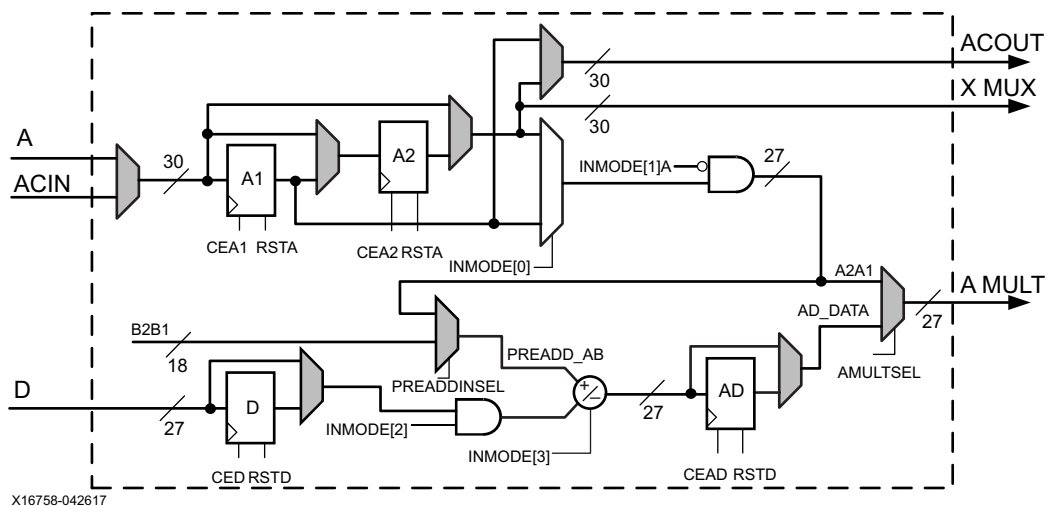
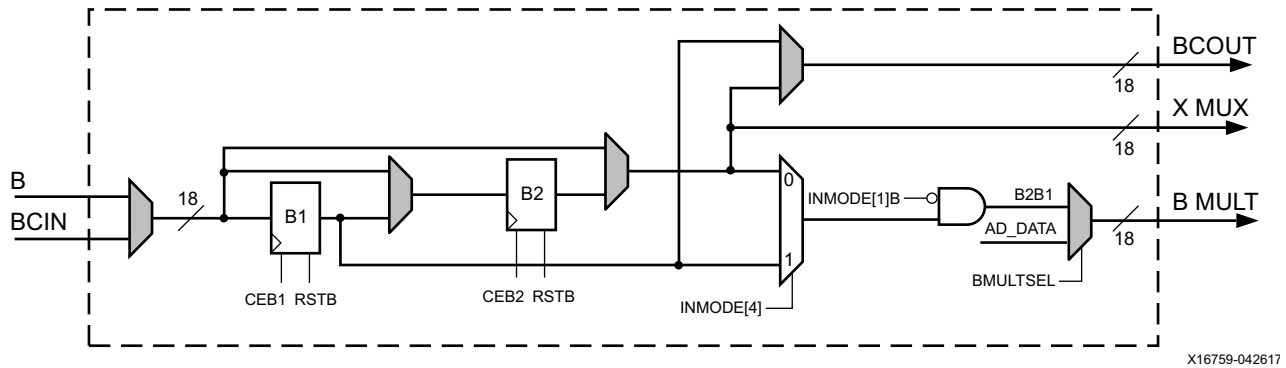

Figure 2-5: Dual A, D, and Pre-Adder Logic
Figure 2-6: Dual B Register Logic
The A and B input port and the ACIN and BCIN cascade port can have 0, 1, or 2 pipeline stages in its datapath. The dual A, D, and pre-adder port logic is shown in Figure 2-5. The dual B register port logic is shown in Figure 2-6. The different pipestages are set using attributes. Attributes AREG and BREG are used to select the number of pipeline stages for A and B direct inputs to the X multiplexer to the ALU, and INMODE[0] can dynamically change the number of pipeline stages to the multiplier. Attributes ACASCREG and BCASCREG select the number of pipeline stages in the ACOUT and BCOUT cascade datapaths. The allowed attribute settings are shown in Table 3-3, page 54. Multiplexers controlled by configuration bits select flow through paths, optional registers, or cascaded inputs. The data port registers allow users to typically trade off increased clock frequency (i.e., higher performance) vs. data latency.
- INMODE[1]A and INMODE[1]B are internal signals defined by the user settings of PREADDINSEL and INMODE[1]. If PREADDINSEL=A, INMODE[1]A (see Figure 2-5, page 24) is INMODE[1] and INMODE[1]B (see Figure 2-6, page 25) is 0. If PREADDINSEL=B, INMODE[1]B is INMODE[1] and INMODE[1]A is 0.